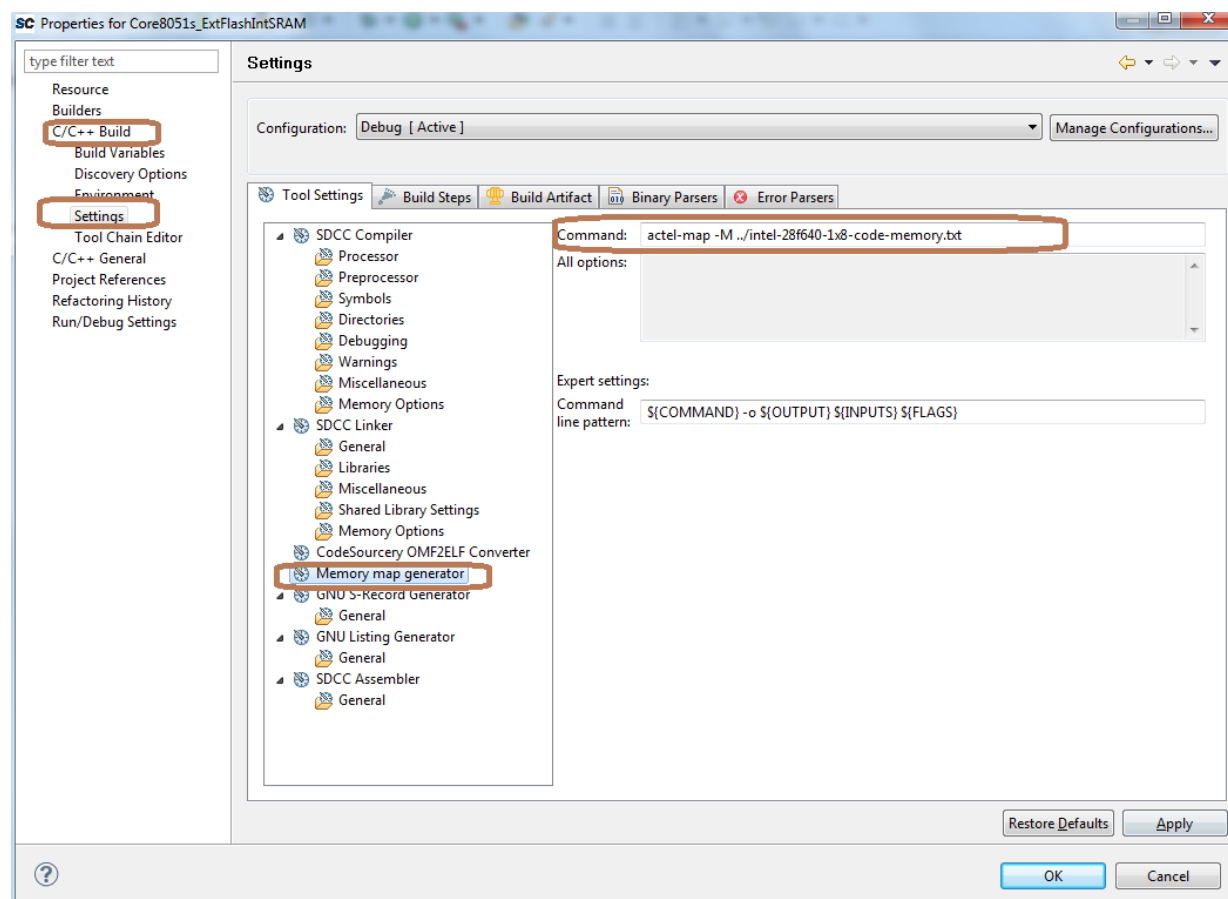

Figure 17 • Memory Map Generator
6. Click **Tools Settings** tab on the right pane and select the **Memory map generator**, as shown in Figure 17.